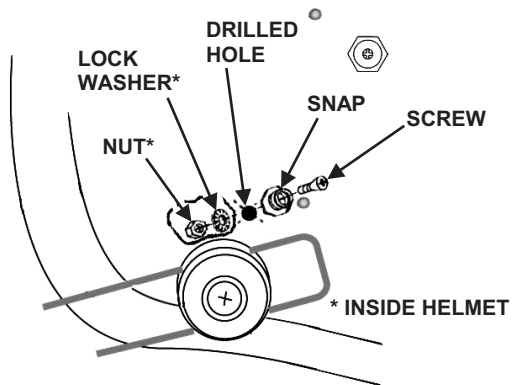

Figure 7. Installing Snap
5. Referring to **Figure 7**, install a snap with a screw, a lock washer, and a nut on each side of the helmet in the drilled holes. Before installing the screws, apply thread-locking adhesive to the threads of each screw.